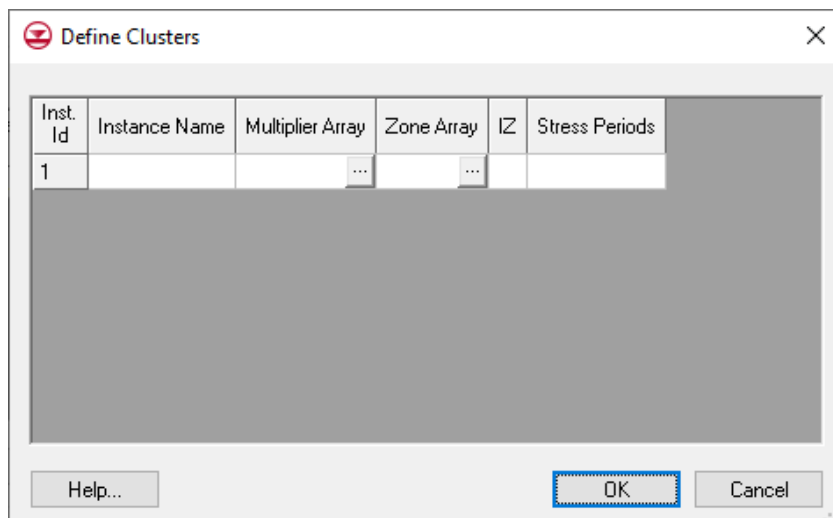

Figure 3 Define Clusters dialog with one instance and one cluster
10. In the *Define clusters* column, click the  button to bring up the *Define Clusters* dialog (Figure 3).
Clusters and parameter instances are defined in the *Define Clusters* dialog. Since this is a steady state model, the example has only one instance and one cluster, and only one editable row is available in the dialog (Figure 3).